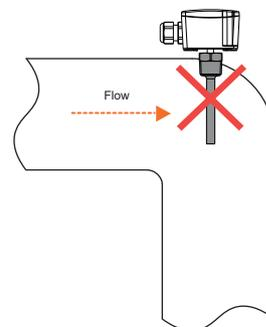

Fig. 5 Position of the probe in the pipe with immersion well
- Mount the temperature sensor at representative locations of the space to be monitored (see Fig. 4 and Fig. 5).